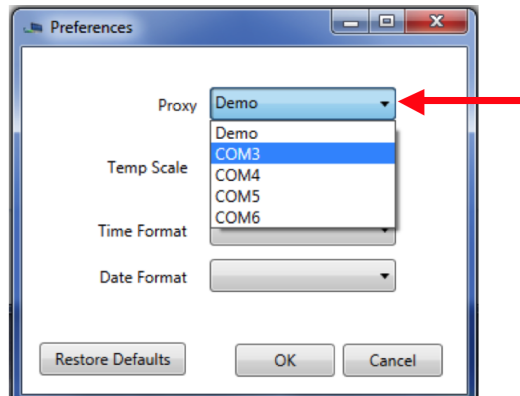

Figure 27
- 2) Select the **Port** drop down menu (Figure 27).